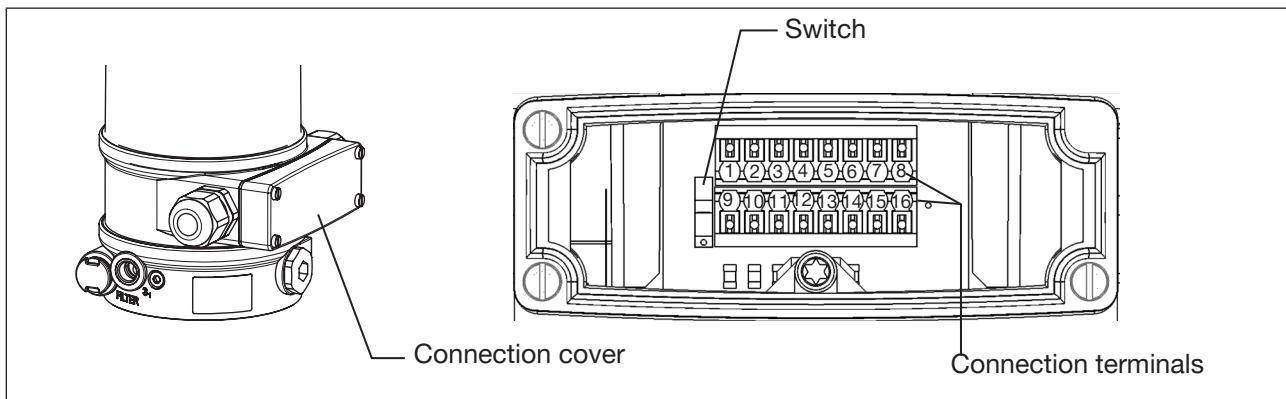

Figure 30: Cable gland connection
** The switch is situated under the connection cover (see „Figure 30: Cable gland connection“).